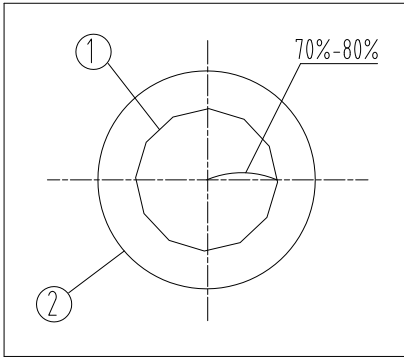

Fig.14
2. Adjust condenser adjustment knob ③ in clockwise direction, raise the condenser to the top, let the illumination light fills the field of view. As the specimen contrast is usually low, it is advised to adjust the condenser aperture diaphragm to be 70%-80% of the N.A. of objective. Rotate the aperture diaphragm adjusting ring ④, align the arrow with the magnification position on the diaphragm seat ⑤. The eyepiece can be taken off when it's necessary to observe from the tube. Adjust the aperture diaphragm adjusting ring ④ until see the figure as shown in Fig. 14, to adjust the proportion (see Fig. 14&15, ① is the image of aperture diaphragm, ② is the edge of objective).